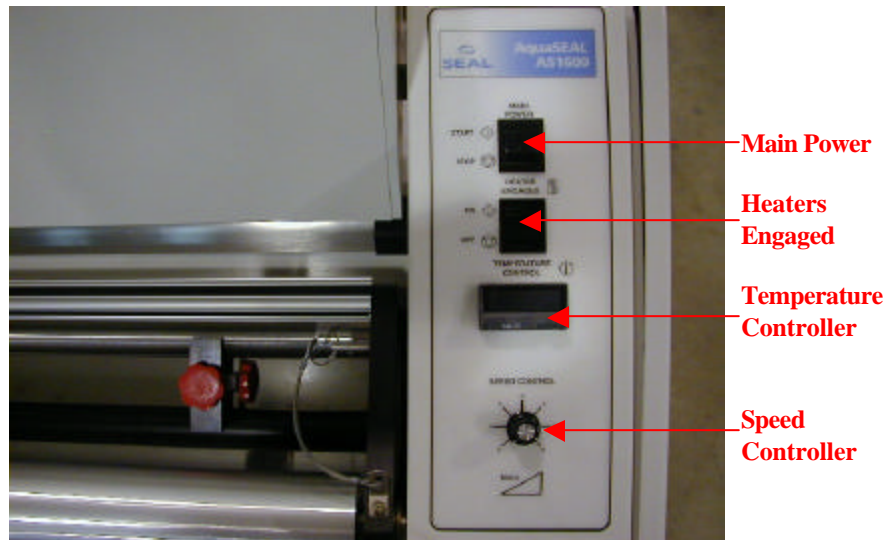

Figure 1.2 Control Panel
- The **Control Panel** contains all the displays, controls, and indicators required to operate the laminator. Refer to Figure 1.2 and its accompanying descriptions.